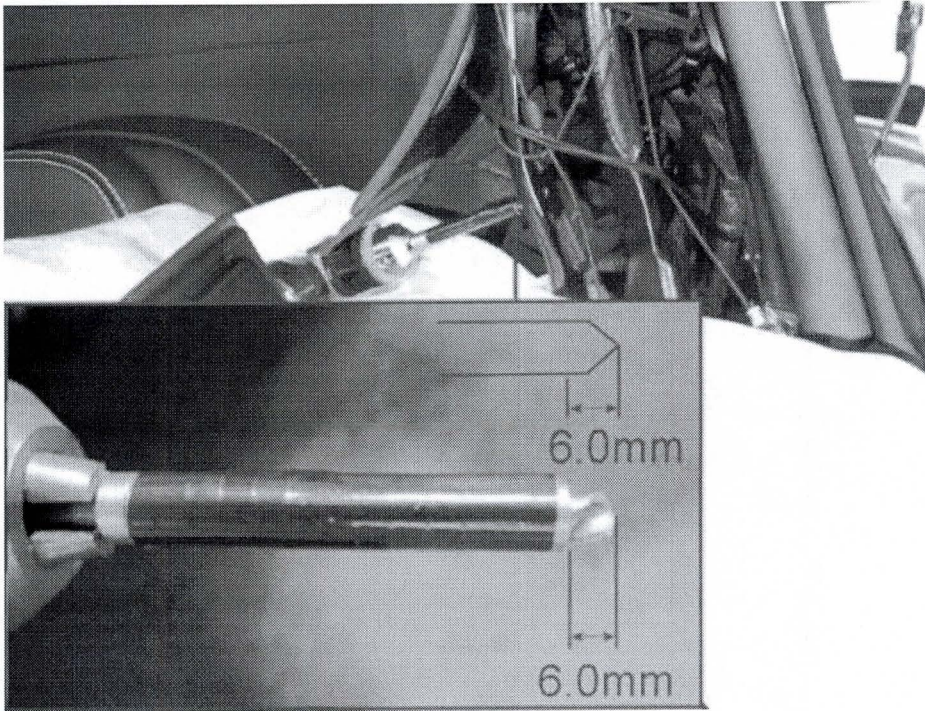

Figure 7
1. A hole 5.5mm in diameter and 6mm in depth has to be drilled from the rear face of the bow to produce figure 2B. Using a method of ensuring a depth of 6mm is not exceeded, measured from the drill tip, produce the 5.5mm counter bore from the rear of the bow (see Figure 7)